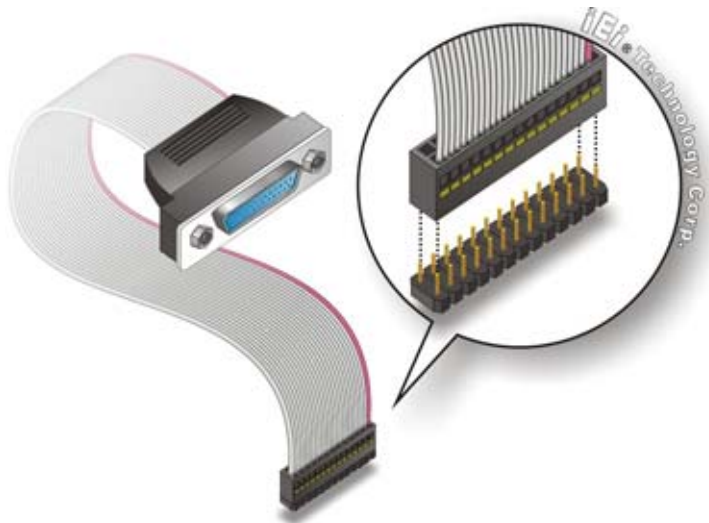

Figure 5-10: LPT Cable Connection
Step 2: Align the connectors. Correctly align pin 1 on the cable connector with pin 1 on the eKINO-945GSE LPT box-header connector. See **Figure 5-10**.
Step 3: Insert the cable connectors Once the cable connector is properly aligned with the 26-pin box-header connector on the eKINO-945GSE, connect the cable connector to the on-board connector. See **Figure 5-10**.